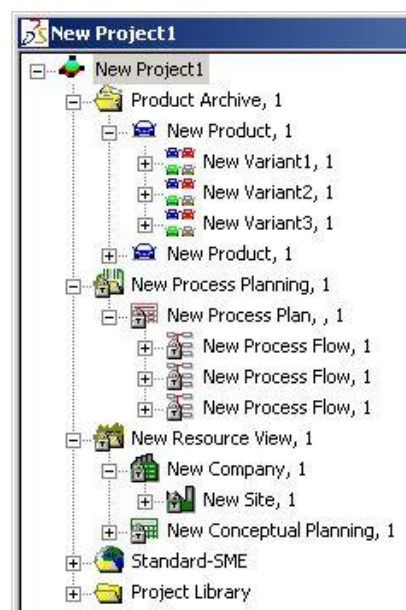

Figure 234: Plan Areas in the Main Project Marked as Locked
- 3) The plan sections unlocked for the supplier project are marked as locked in the main project. (Please refer to the Figure 234).